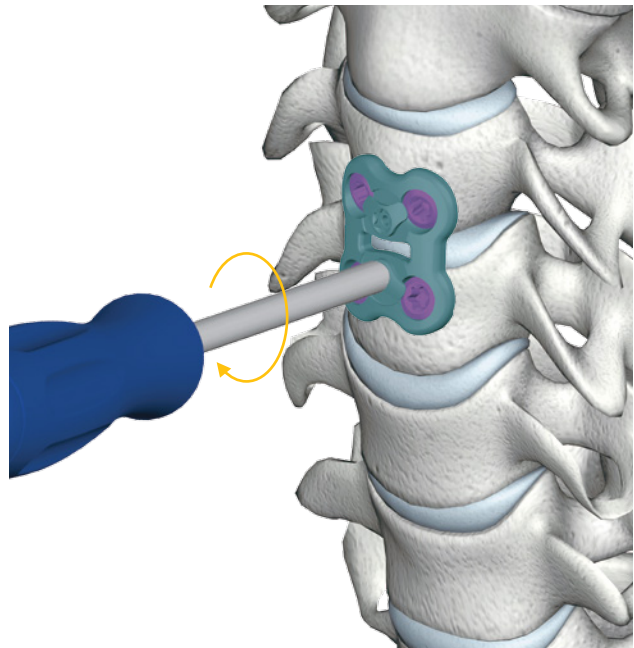

Figure 15
- Rotate the CAP counter-clockwise until the CAP is parallel with the vertebral body (Figure 15). Be careful to ensure that the CAP is not over turned, as damage may occur.